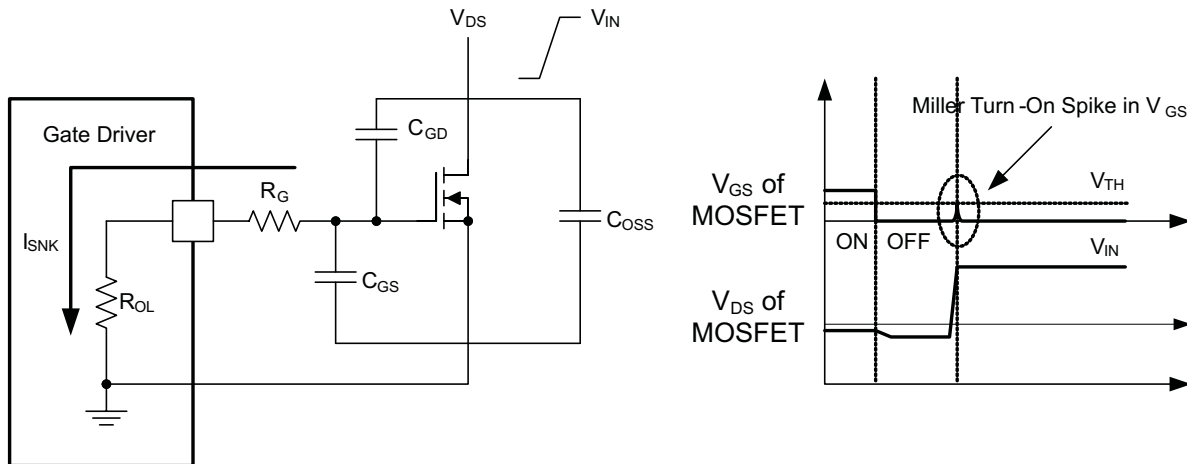

Figure 24. Low Pulldown Impedance in UCC27531-Q1 (Output Stage Mitigates Miller Turn-on Effect)
An example of a situation where Miller turn on is a concern is synchronous rectification (SR). In SR application, the dV/dt occurs on MOSFET drain when the MOSFET is already held in Off state by the gate driver. The current charging the C_{GD} Miller capacitance during this high dV/dt is shunted by the pull-down stage of the driver. If the pull-down impedance is not low enough then a voltage spike can result in the V_{GS} of the MOSFET, which can result in spurious turn on. This phenomenon is illustrated in Figure 24.